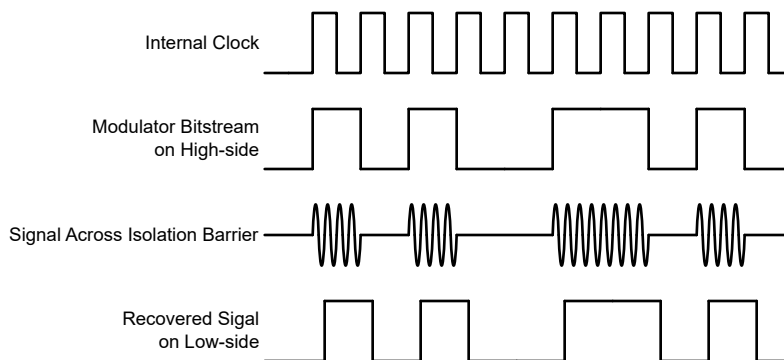

Figure 7-1. OOK-Based Modulation Scheme
The AMC1351-Q1 uses an on-off keying (OOK) modulation scheme, as shown in Figure 7-1, to transmit the modulator output bitstream across the SiO₂-based isolation barrier. The transmit driver (TX) shown in the Functional Block Diagram transmits an internally-generated, high-frequency carrier across the isolation barrier to represent a digital *one* and does not send a signal to represent a digital *zero*. The nominal frequency of the carrier used inside the AMC1351-Q1 is 480 MHz.